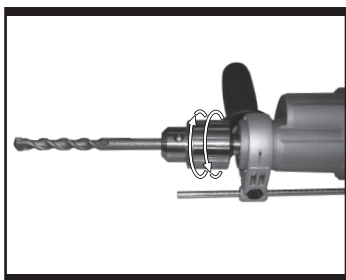

Fig. 5-1
Insert tool and tighten equally in all 3 bores with chuck key (9). Rotate chuck key (9) clockwise to tighten the chuck, and rotate it anti-clockwise to loosen the chuck. (See Fig. 5-1,5-2)